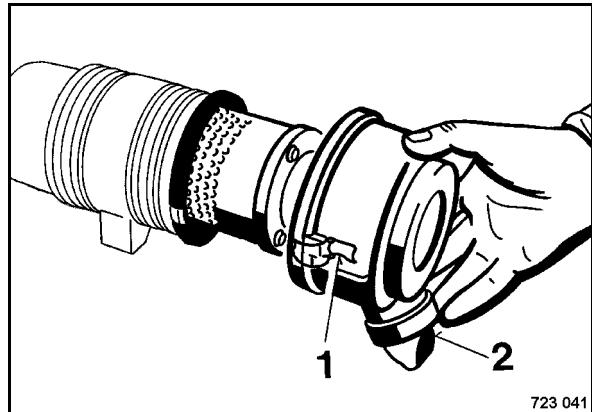

Fig. 133
- Open both clamps 1 (Fig. 133).
- Clean filter hood and dust discharge valve (2).